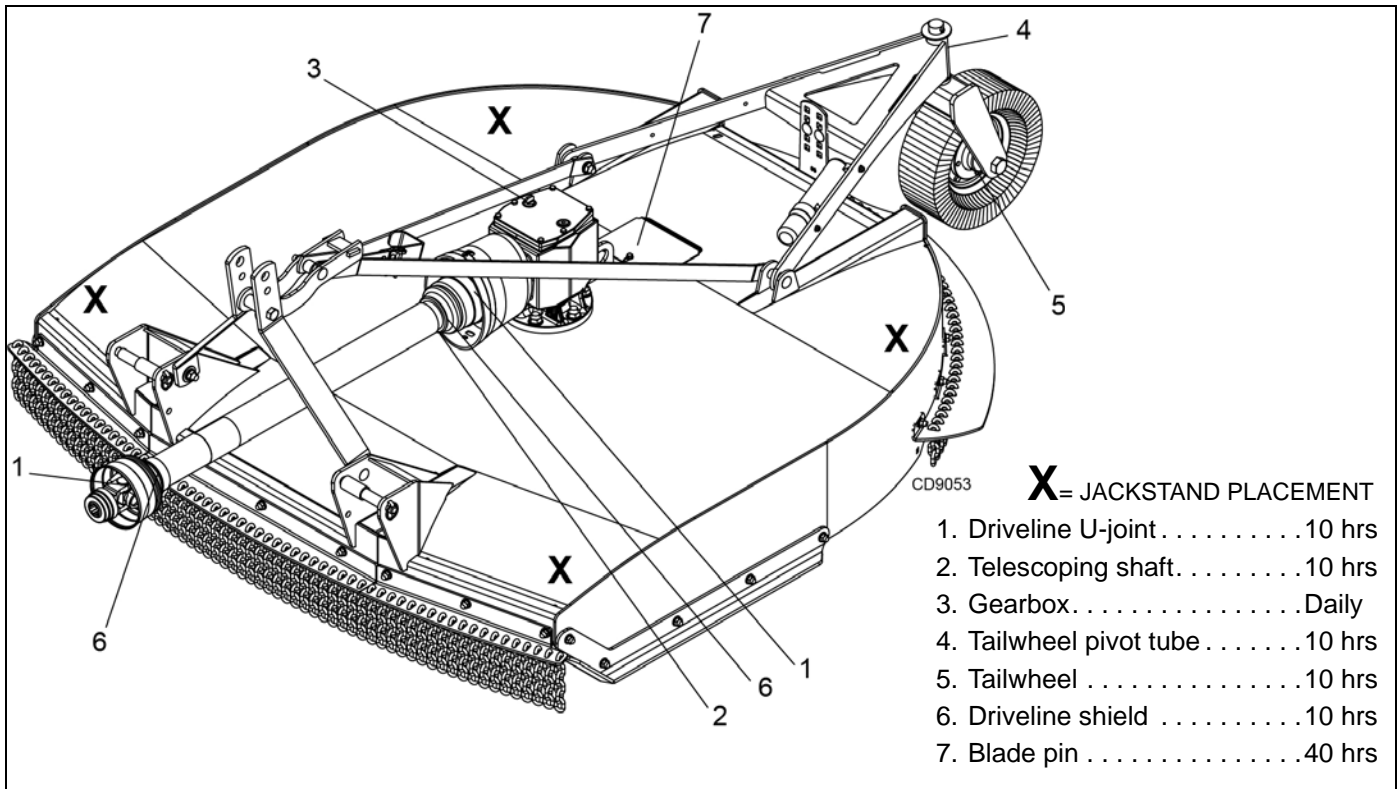

Figure 12. Jackstand Placement and Lubrication Points
1. Jackstands with a load rating of 1000 lbs or more are the only approved blocking device for this cutter. Install a minimum of four jackstands (shown by Xs in Figure 12) under the cutter before working underneath unit.
2. See Figure 12 for lubrication points and frequency of lubrication based on normal operating conditions. Severe or unusual conditions may require more frequent lubrication.
2. Raise cutter and block securely (see **Blocking Method, Figure 12**).
3. Align crossbar (2) with blade access hole in the cutter frame. Remove cap screw, blade pin lock clip, keyhole plate, and shims. Carefully drive pin out of crossbar.
4. Rotate crossbar (2) and repeat for opposite blade.